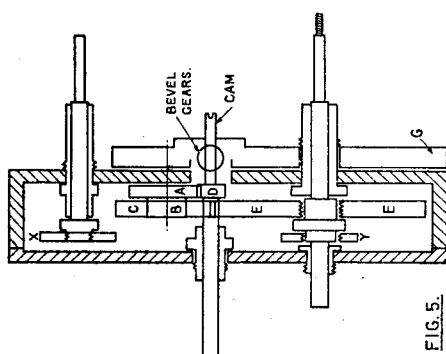

FIG. 5.
Exposed view, showing gear assembly. The assembly and gear ratios are given in detail in Fig. 5
SCALE: FOR FIGS. 5, 6, 7, & 8.
This was accomplished by adding three extra gears (Fig. 5), one of 40 teeth coupled to one of 20 teeth to give a ratio of 2 to 1, and an idle gear of 52 teeth to correct the direction of rotation. The gear sizes and centres were all calculated to the usual formulae for D.P. gears, and the centres were set out by the "toolmakers button" method. These gears are mounted on little stub axles screwed tightly through the back of the gearbox and into the gunmetal casting (G). The 120-tooth spur gear and the two chain sprockets were all screwed on to the shafts, which were all turned and screwed from the solid to avoid pinning on collars. The diameter of all the wearing parts of the shafts was increased to $\frac{1}{4}$ in. for long life.